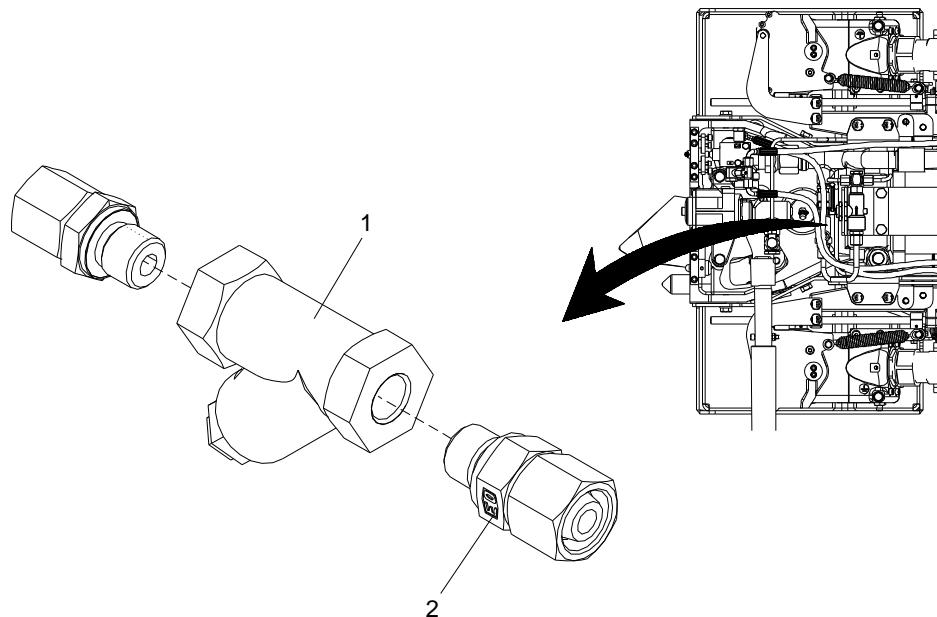

Figure 7-33: Replacement of Air Filter Unit
1. Remove the air filter unit (1) by removing the pipe connections (2). See Figure 7-33.
2. Install the air filter unit (1) by attaching the pipe connections (2). See Figure 7-33.